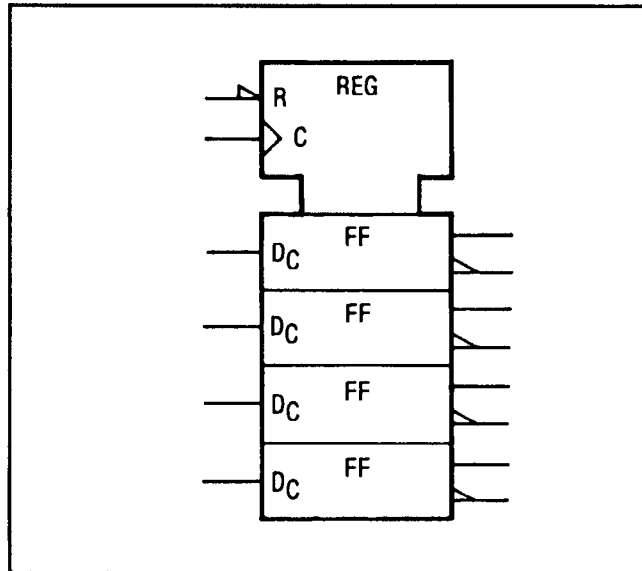

Figure 8-13. Quad D-Type Latch
**Quad D-Type Latch.** The register control block illustrates a quad D-type latch (see figure 8-13). There is a common active-low reset (R), and a common edge-triggered control input (C). Since there is only one dependency relationship, the controlling input is not numbered and the controlled functions (D) are subscripted with a "C".